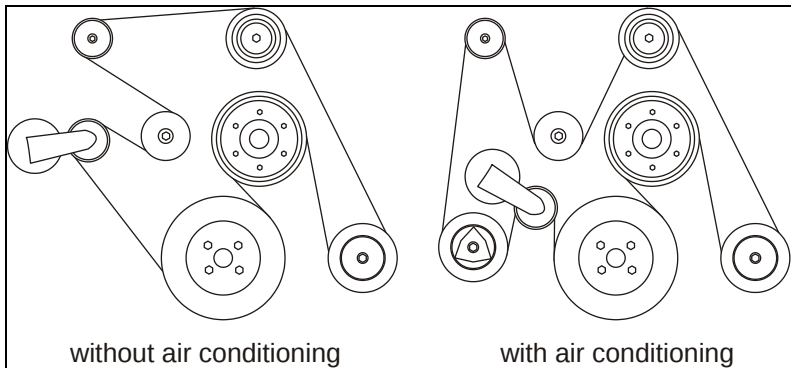

Figure 4.1
- ☐ Place the OEM crank pulley on the front of the crankshaft and rotate it to align it with the locating pin. Route the belt as per (Figure 4.1) but leave the belt loose.
- ☐ Check the OEM belt routing diagram for the correct installation (Figure 4.1).